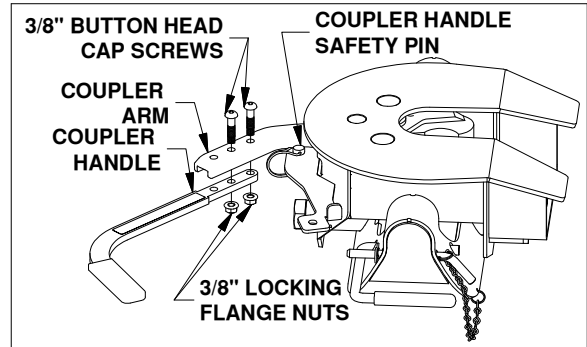

FIGURE F1: View looking down at side of coupler.
1. **Open coupler.** Locate the two 3/8" x 1-1/4" button head cap screws and the two 3/8" flanged lock nuts provided in a bolt bag. Pull out the coupler arm and pin it with the safety locking pin near the base of the arm, as shown in Figure F1.
2. **Secure handle.** Using the button cap screws and the lock nuts attach the coupler handle to the arm and tighten, see Figure F1. Pull out the coupler handle safety pin.